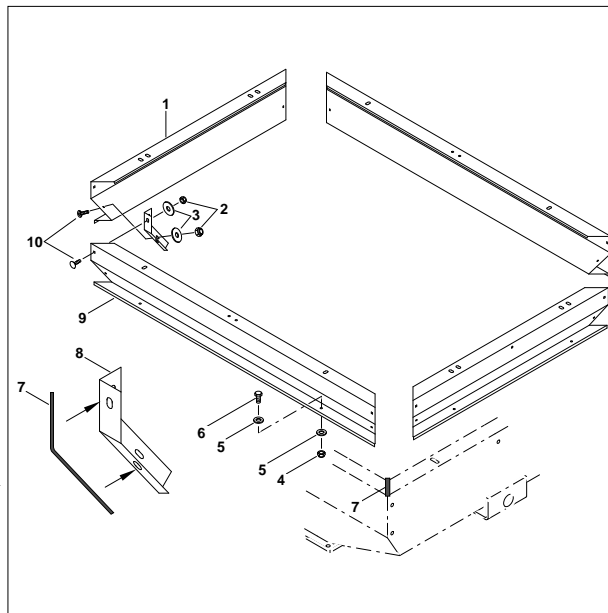

Fig. 24-12 Mounting hopper extension for 750 litre seed hoppers
1. Cut the self-adhesive foam rubber strip (7, fig. 24-12) to the length of the angle brackets (8). Affix it to the 4 angle brackets to seal the corners.
2. Bolt the angle brackets and the fronts and sides (1; 9) together, using the M 6x16 saucer-head screws (10), the U-shaped washers (3) and the M6 nuts (2) (4 of each per corner).